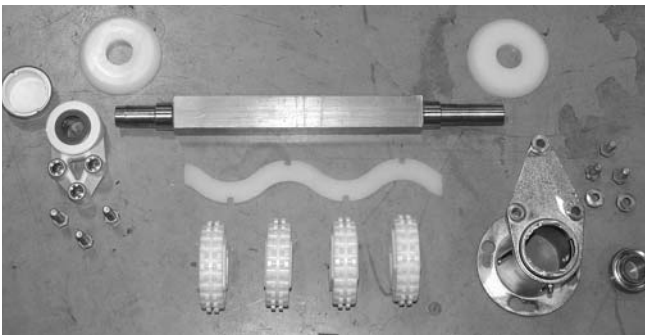

Figure 78
19. Replace components, as needed (Figure 78).